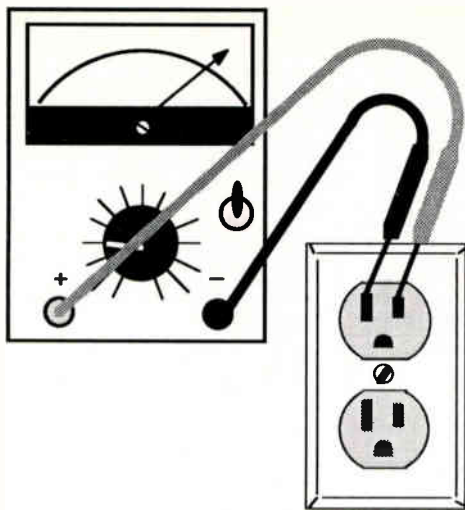

Figure 3. AC Voltage Measurement with a VOM
Figure 3 shows the use of a VOM to check the line voltage. This test uses the AC voltage-measuring circuit of the VOM. Polarity of the probe connection is not important, but it is very important to (1) be sure that the range switch of the VOM is set correctly (to "AC" and a sufficiently high voltage range); and (2) be extremely careful with the handling of the probes, to avoid electrical shock and to avoid short-circuiting the outlet by touching the probes together.